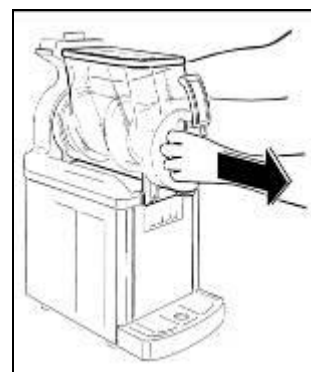

Fig. 8
- Pull the tank outward, as shown, to completely remove it from its seat (fig.8).